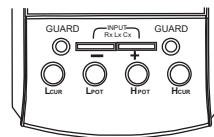

Figure 4
- a) When using square terminals, the square terminals and  $L_{CUR}/L_{POT}/H_{POT}/H_{CUR}$  terminals hang in the air (shown in figure 4);